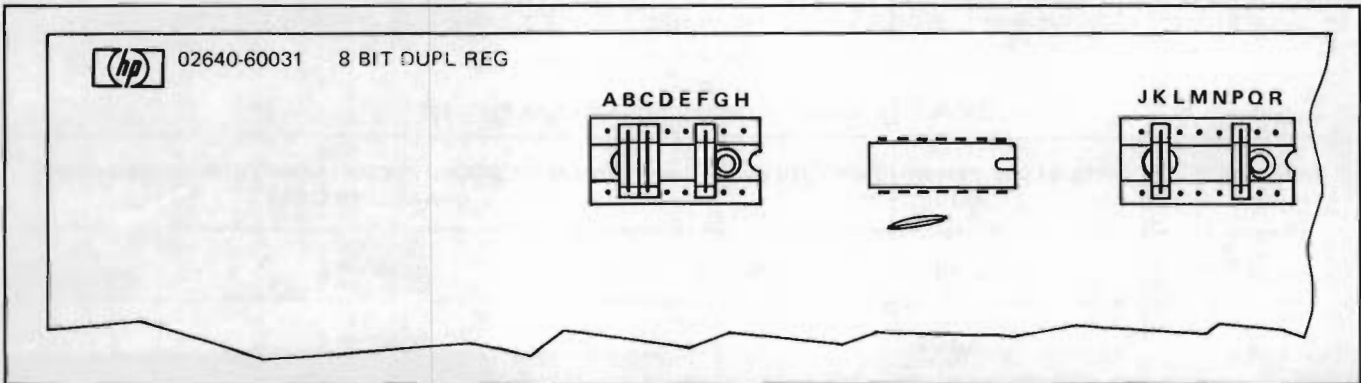

Figure 1-3. Terminal Duplex Register PCA Jumper Configuration
- b. Configure jumpers in Terminal Duplex Register PCA jumper sockets as shown in figure 1-3.